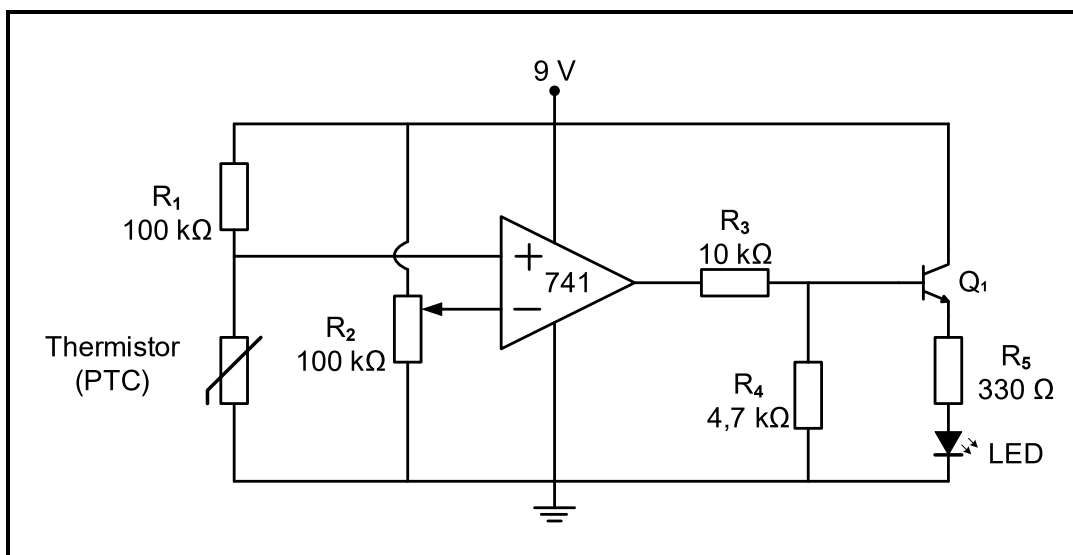

FIGURE 3.6: COMPARATOR AS A TEMPERATURE SENSOR
- 3.6 FIGURE 3.6 below shows a 741 op amp comparator circuit. Answer the questions that follow.